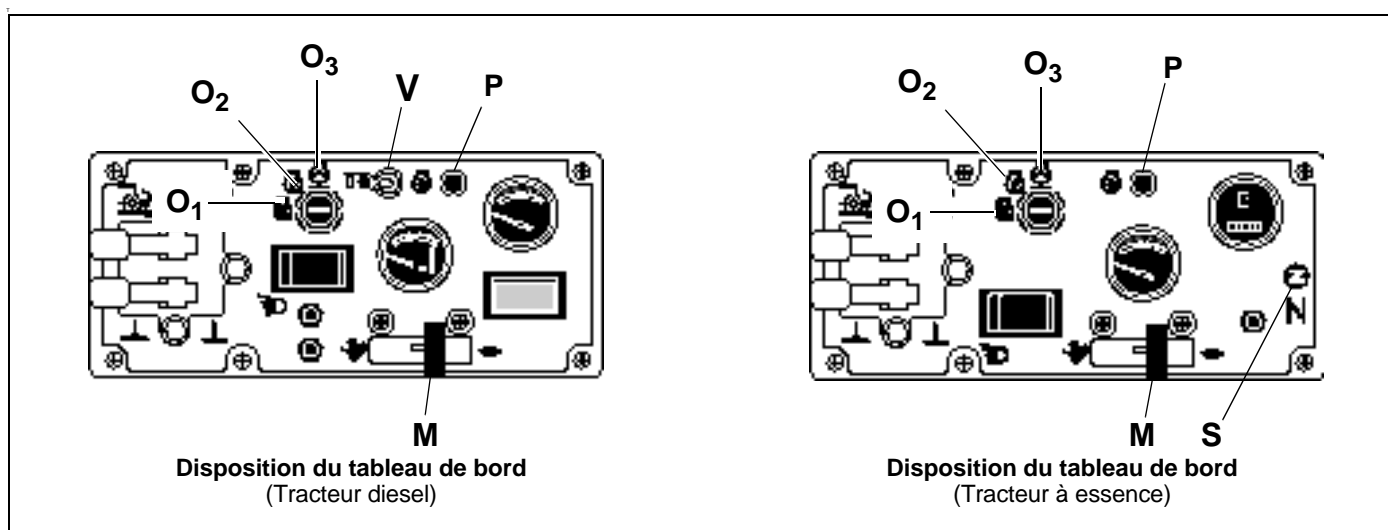

Figure 4A
4.4 DÉMARRAGE DU MOTEUR (Figure 4A)